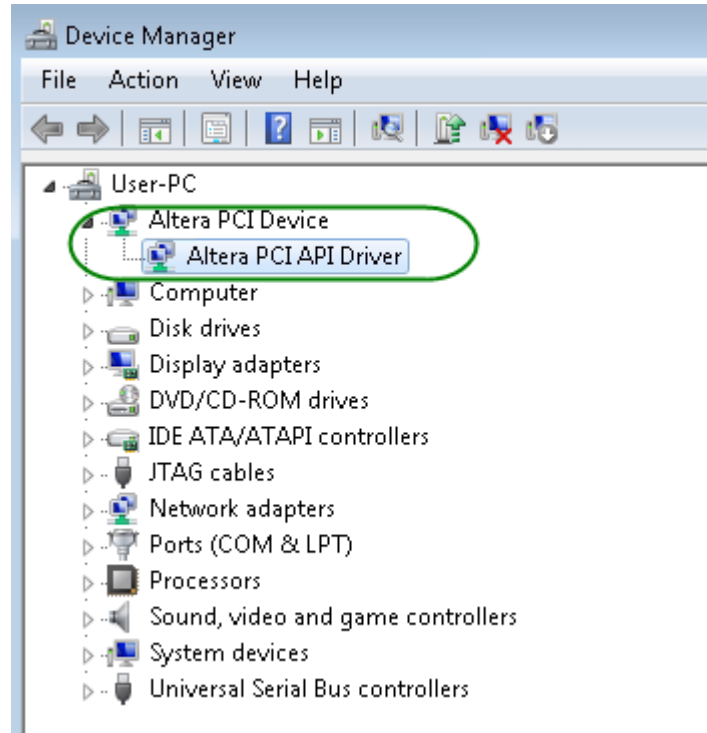

Figure 6-10 Screenshot for PCIe Driver
5. Make sure the Windows has detected the FPGA Board by checking the Windows Control panel as shown in **Figure 6-10**.